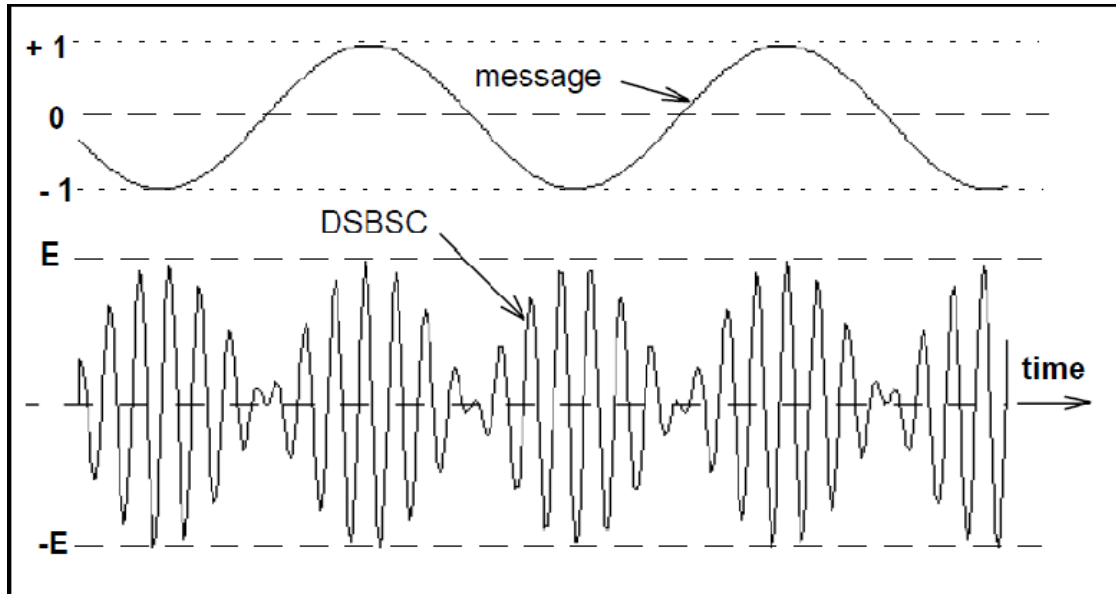

Figure 2: DSBSC – seen in the time domain
Notice the waveform of the DSBSC in Figure 2, especially near the times when the message amplitude is zero. The fine detail differs from period to period of the message. This is because the ratio of the two frequencies  $\mu$  and  $\omega$  has been made non-integral. Although the message and the carrier are periodic waveforms (sinusoids), the DSBSC itself need not necessarily be periodic.
- (e) The 180 phase reversal causes the positive (or negative) side of the envelope to have a shape different from that of the message signal, see Figure 2.